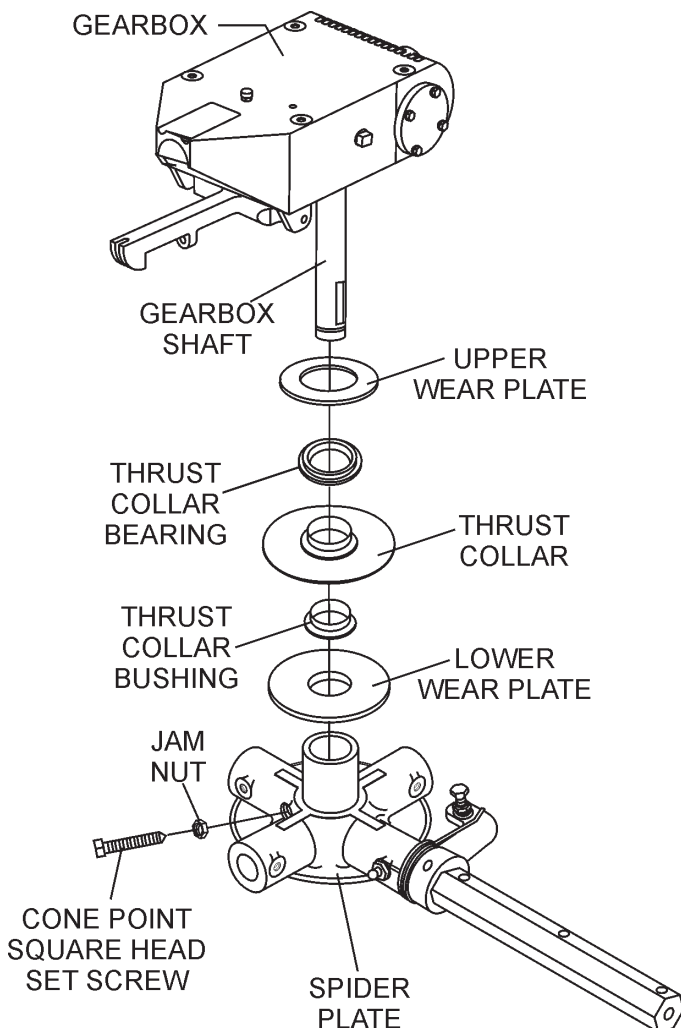

Figure 39. Spider/Gearbox Removal
1. Locate the cone point square head set screw (Figure 39) and attached jam nut found on the side of the spider assembly.